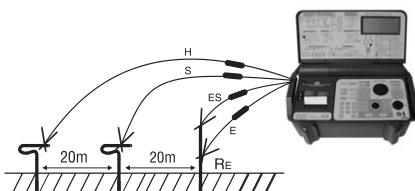

Figure 6.5.1: Connectors of leads
- ▶ Switch on UNITEST EURO-EXPERT plus via switch "ON/OFF" (9).
- ▶ Set the measurement range needed by using the function switch (1).
- ▶ Connect the 4-pole test leads to instrument, measurement connectors (17).
- ▶ Arrange the earth rods for probe and auxiliary ground connection if possible in one line as shown in figure 6.5.1. The distance between probe (S) and Earth electrode (E/ES) and similarly between probe and auxiliary ground connection (H) must be at least 20 m. Lay out the cables carefully and take care that the cables if possible do not lie alongside each other and do not cross each other in cat. to avoid capacitive coupling.
- ▶ Connect the test cables with the earth rods and the Earth electrode (see Figure 6.5.1)